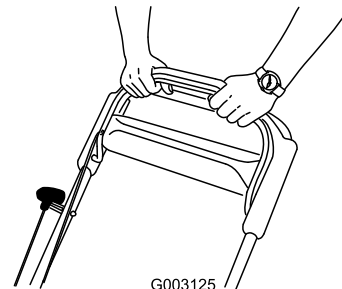

Figure 21
3. Hold the blade control bar against the handle (Figure 21).